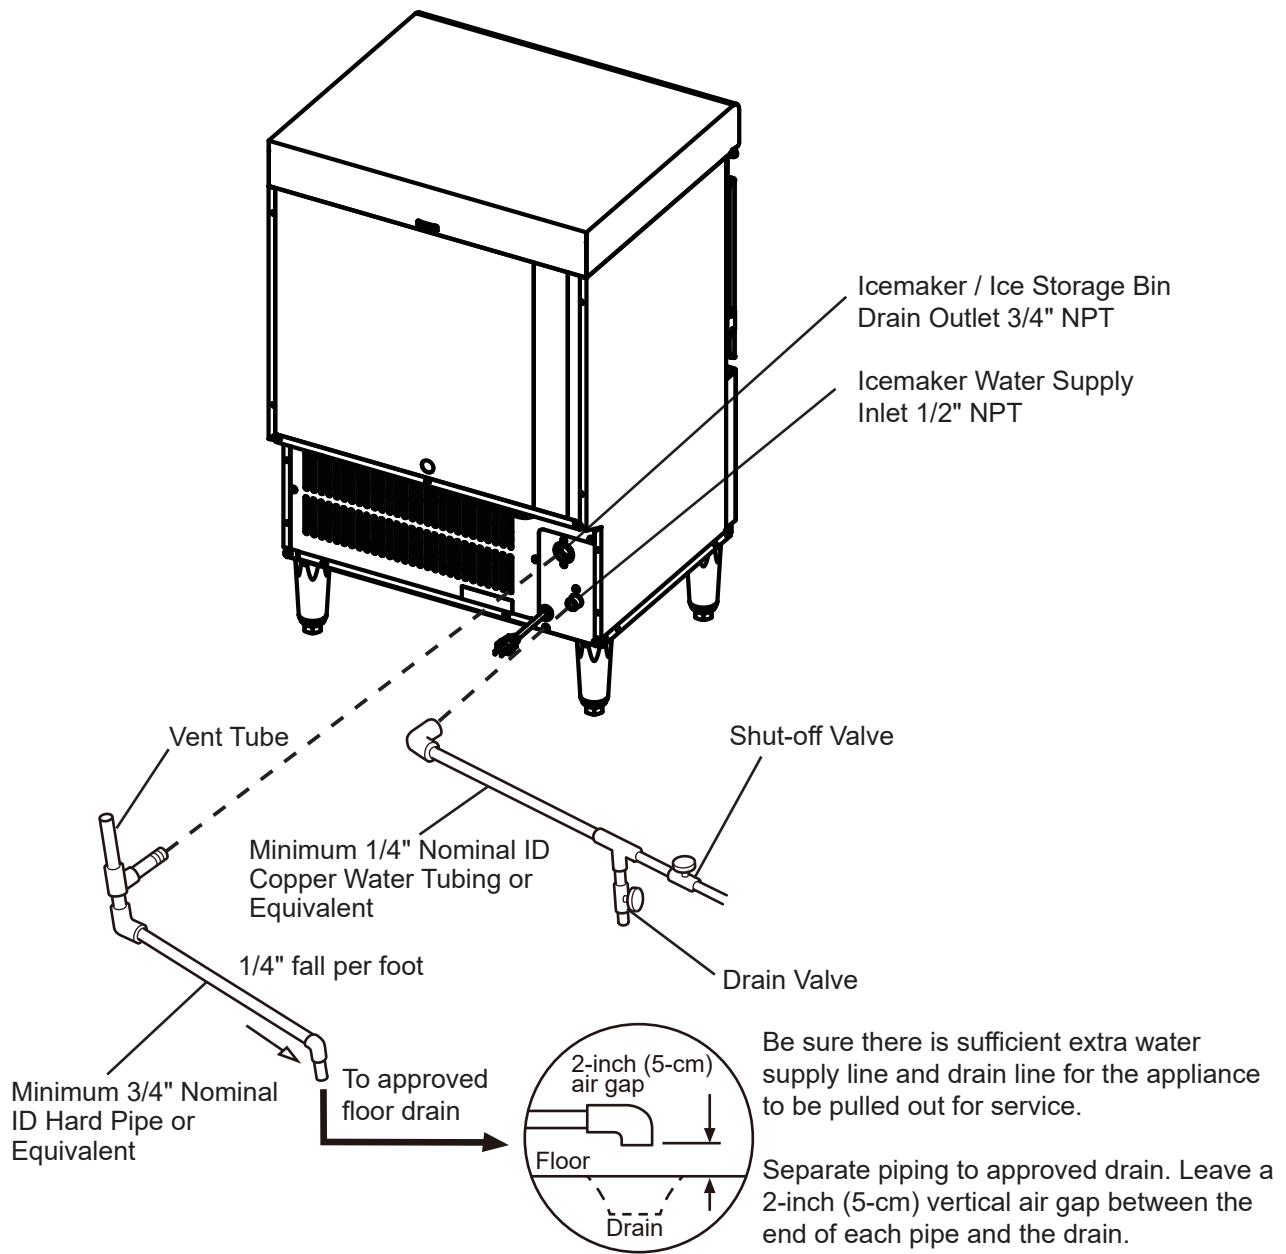

Fig. 3
- 3) Close the icemaker water supply line shut-off valve and open the icemaker water supply line drain valve. See Fig. 3.